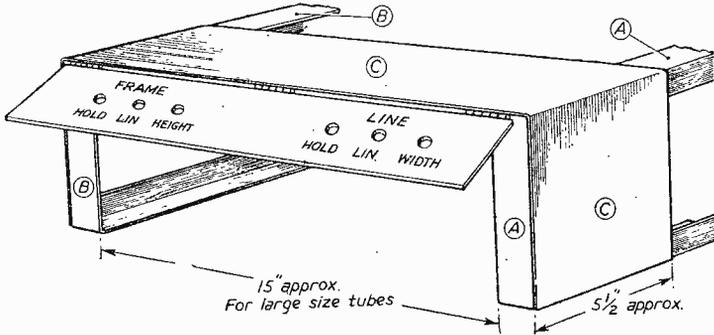

Fig. 4 (above).—Alternative arrangement for the time-base controls, which are mounted on a hinged panel at the rear.
bases as far apart as possible (to guard against interaction), both terminating in a single four-pin socket at the centre for inserting a plug which is connected to the deflector coils. Other arrangements are possible, but this is one well worth contemplating. The arrangement shown in this drawing for the timebase controls (speed, width and linearity) on the side panel (C) may be found unsuitable for installation in a cabinet, but has the advantage of being able to view from the front whilst making adjustments. An alternative is given in Fig. 4 showing the same controls mounted on a hinged strip at the rear.